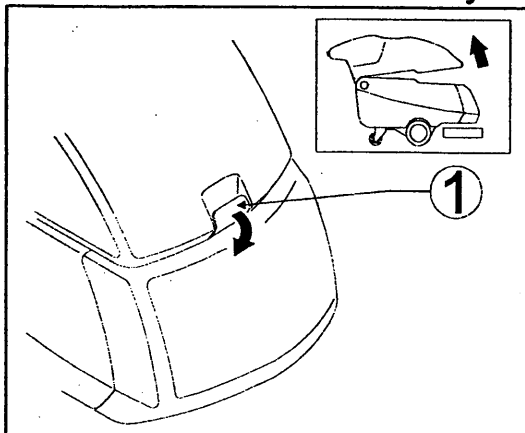

Fig. 7
- 3) unhook the recovery tank (fig. 2, ref. 2) from the solution tank (fig. 2, ref. 3) acting on the blocking hook (fig. 7, ref. 1), placed on front of the machine;
- 7) insert back the tank unit in its work position and hook it to the solution tank by means of the fixing hook (fig. 7, ref. 1);